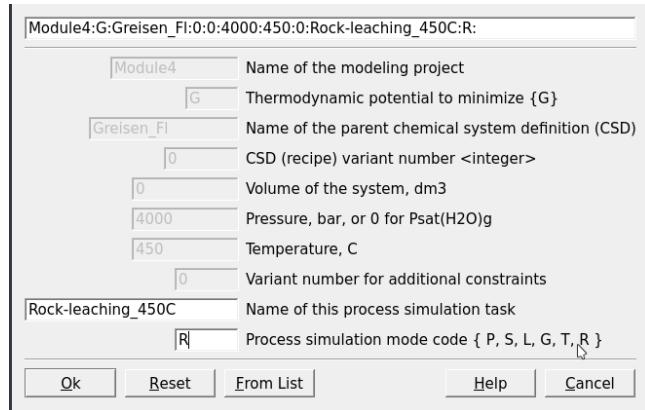

Figure 4.4: Create a new record for a Process simulation in R mode.
- Name the simulation task "Rock-leaching_450C" and use as simulation code R this time instead of S (Figs. 4.4 and 4.5).